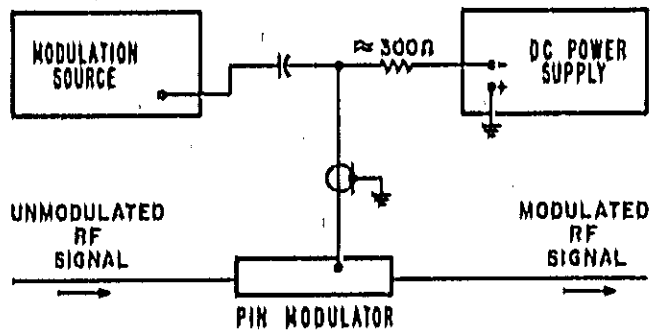

Figure 11. Typical General Modulation Setup
30. The PIN Modulator can be used to amplitude-modulate the RF signal with almost any time-varying signal. Modulation is accomplished with a DC bias current to obtain a specific attenuation level and then superimposing a time varying current upon the bias current. The specific attenuation level upon which the modulating signal is superimposed must be equal to or greater than the peak amplitude of the modulating signal or peak clipping will occur. A control instrument designed for use in modulating applications with the PIN Modulators is the hp Model 8403A Modulator which provides frequency compensation for extending the PIN Modulator AM frequency response to 10 MHz. However, a typical setup for modulating applications, without the use of the hp Model 8403A Modulator, is illustrated in Figure 11.
35. To obtain pulsing with rise and fall times in the order of 15 to 40 nanoseconds, the PIN Modulator must be biased with the HP Model 8403A or from a specially shaped impulse waveform such as is illustrated in Figure 14. However, if rise and fall times in the order of 100 to 300 nanoseconds are satisfactory, a setup such as is shown in Figure 11 may be used. Note: in any modulating system, modulating capability depends upon the modulating waveform at the BIAS input connector. Hence, lead lengths should be as short as possible to avoid capacitive cable effects.